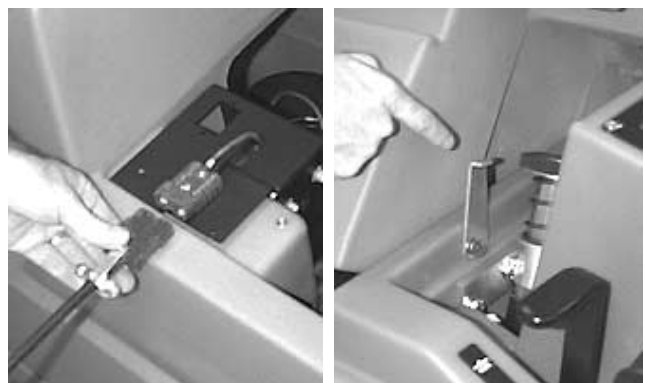

FIG. 25
5. Plug charger DC output connector to battery connector located near battery compartment. Flip up tank support stand and rest tank on stand (Figure 25).